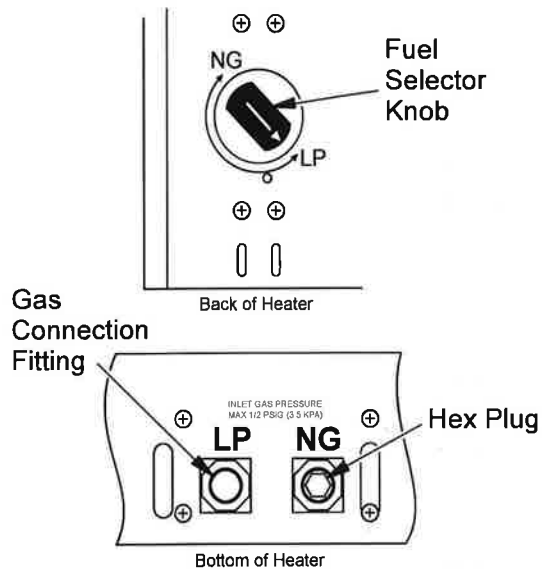

Figure 6 - Settings for Propane/LP Gas Selection
1. Remove 2 screws from cover plate located on back of heater to expose fuel selection device (see Figure 6).
2. For propane gas, press in knob using a flat screwdriver with a blade the thickness of a quarter and turn knob counterclockwise until the knob locks into the LP position (see Figure 6). Fuel selection device must be locked in the LP position. Do not operate heater between locked positions.
4. Remove hex plug (with wrench provided) from propane/LP gas inlet of regulator (see Figure 6). Install hex plug into NG inlet of regulator. Install gas line into propane/LP inlet of regulator. Use thread sealant to ensure that there are no leaks.